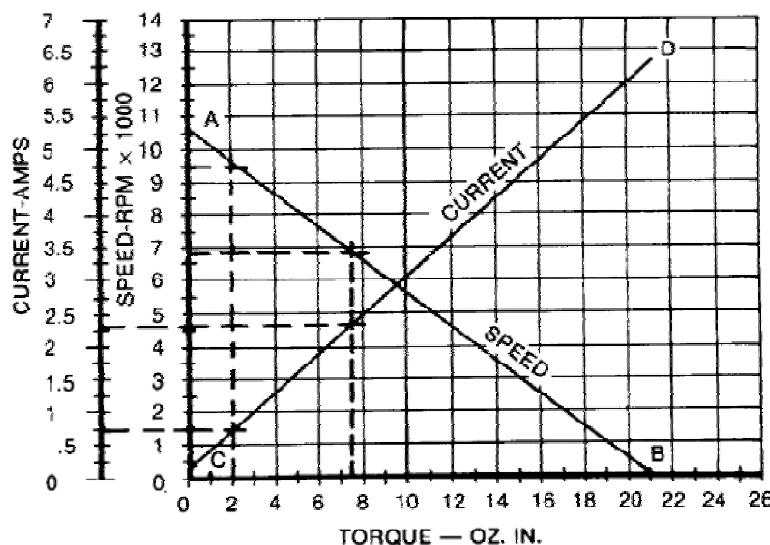

Figure 1
1. Using the data for the 150A100 motor, at 27 VDC input: Observe that the no-load speed for the DMR-10 is 10,550 rpm (point A on the curve in Figure 1, page 2). The stall torque value shown in the chart is 21.1 oz. in. (point B). Plot these two points on a graph and connect them with a straight line. This line shows the speed versus torque characteristics of the DMR-10 motor at 27 VDC input.